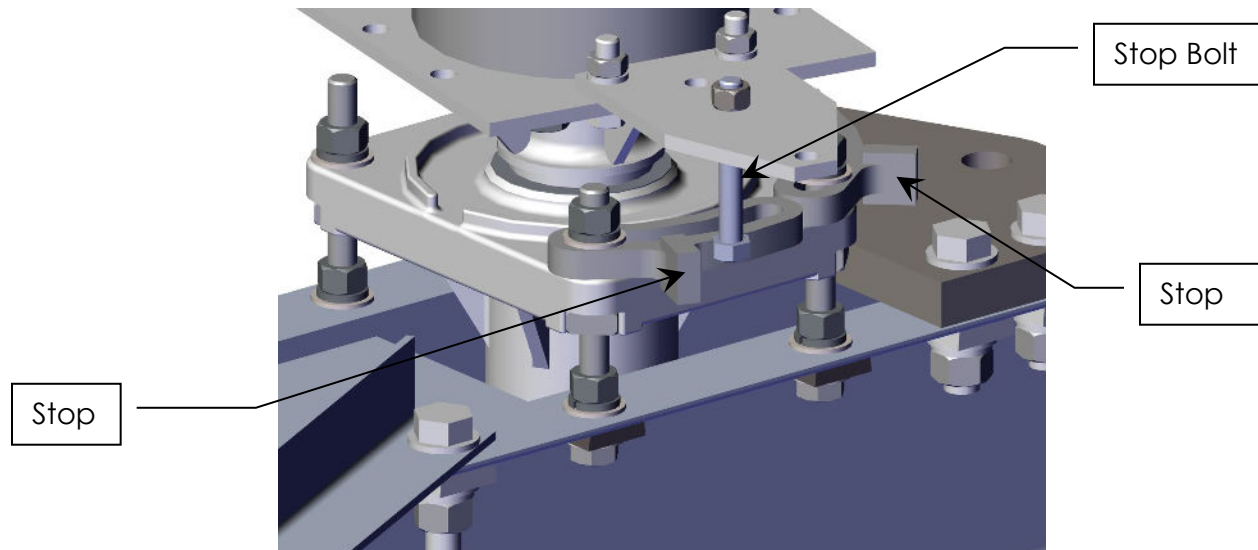

Figure 13: Closed Position Bearing Stop
- 4) The closed position bearing stop, located at the bottom of the insulator, is correctly adjusted when there is a 1/16" to 1/8" clearance between the stop and the stop bolt. Adjust the stop if necessary. See Figure 13.